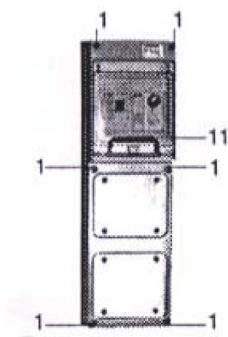

Fig. 1
G) tighten the cap fig. 1 by slipping the screws 1);